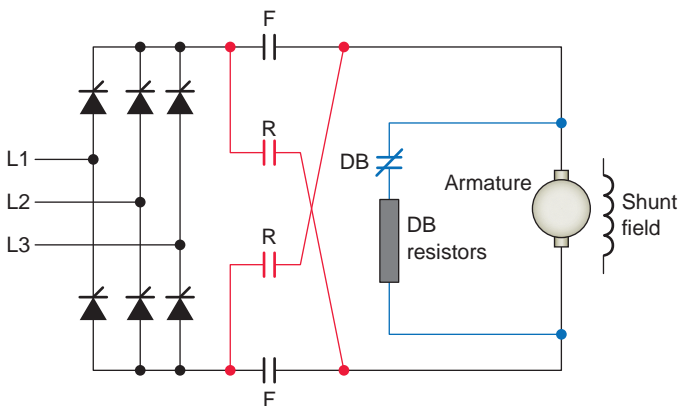

Figure 10-40 Nonregenerative DC drive with external dynamic braking and reversing contactors.
Nonregenerative DC drives, also known as single-quadrant drives, rotate in one direction only and they have no inherent braking capabilities. Stopping the motor is done by removing voltage and allowing the motor to coast to a stop. Typically nonregenerative drives operate high-friction loads such as mixers, where the load exerts a strong natural brake. In applications where supplemental quick braking and/or motor reversing is required, dynamic braking and forward and reverse circuitry, such as shown in Figure 10-40, may be provided by external means. Dynamic braking (DB) requires the addition of a DB contactor and DB resistors that dissipate the braking energy as heat. The addition of an electromechanical (magnetic) reversing contactor or manual switch permits the reversing of the controller polarity and therefore the direction of rotation of the motor armature. Field contactor reverse kits can also be installed to provide bidirectional rotation by reversing the polarity of the shunt field.